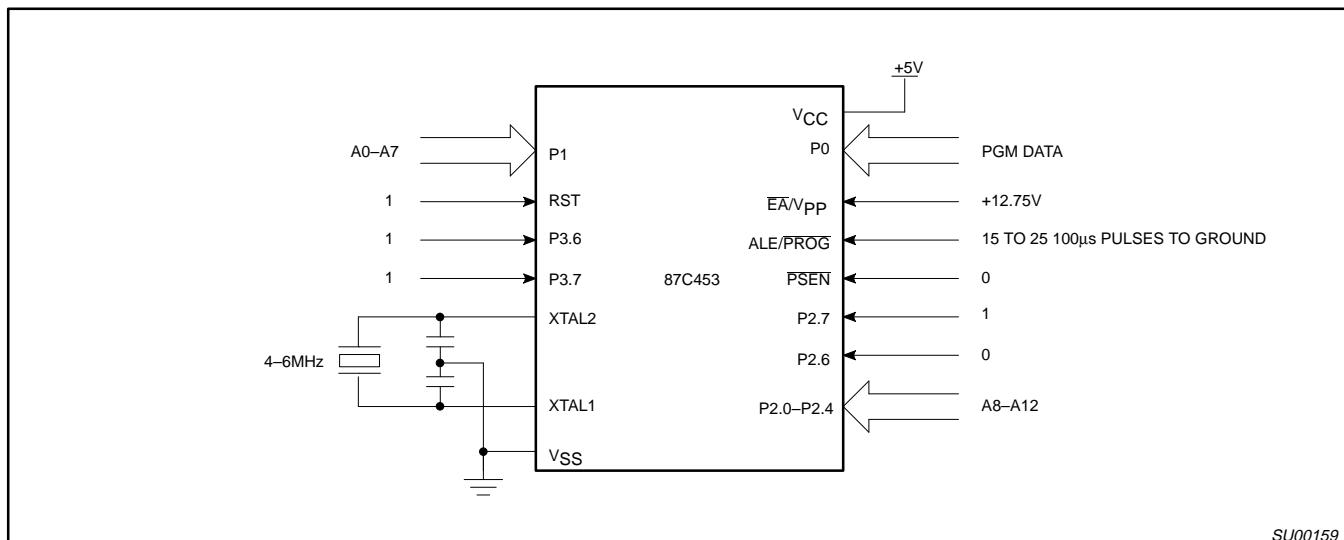
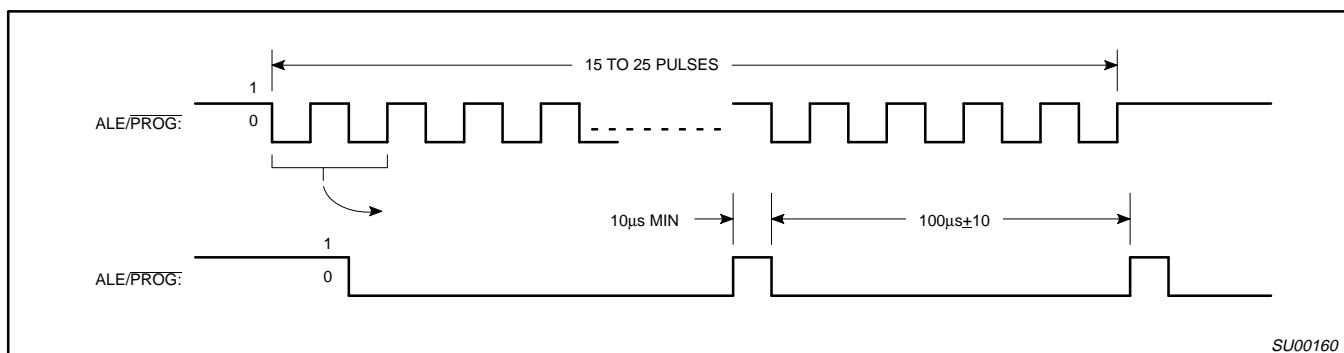
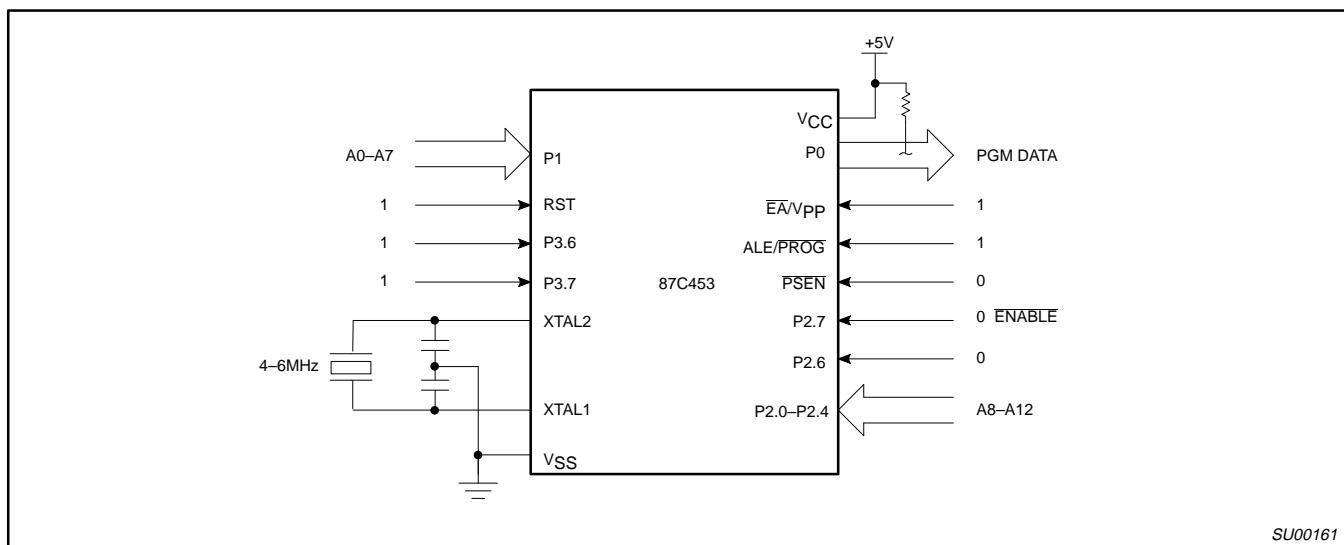

Figure 25. Programming Configuration
Figure 26. PROG Waveform
Figure 27. Program Verification
Table 4 shows the logic levels for reading the signature byte, and for programming the program memory, the encryption table, and the lock bits. The circuit configuration and waveforms for quick-pulse programming are shown in Figures 25 and 26. Figure 27 shows the circuit configuration for normal program memory verification.
The setup for microcontroller quick-pulse programming is shown in Figure 26. Note that the 87C453 is running with a 4 to 6MHz oscillator. The reason the oscillator needs to be running is that the device is executing internal address and program data transfers.
The address of the EPROM location to be programmed is applied to ports 1 and 2, as shown in Figure 25. The code byte to be programmed into that location is applied to port 0. RST, PSEN and pins of ports 2 and 3 specified in Table 4 are held at the 'Program Code Data' levels indicated in Table 4. The ALE/PROG is pulsed low 15 to 25 times, as shown in Figure 26.
If lock bit 2 has not been programmed, the on-chip program memory can be read out for program verification. The address of the program memory locations to be read is applied to ports 1 and 2 as shown in Figure 27. The other pins are held at the 'Verify Code Data' levels indicated in Table 4. The contents of the address location will be emitted on port 0. External pull-ups are required on port 0 for this operation.
* FOR PROGRAMMING VERIFICATION SEE FIGURE 25.
FOR VERIFICATION CONDITIONS SEE FIGURE 27.